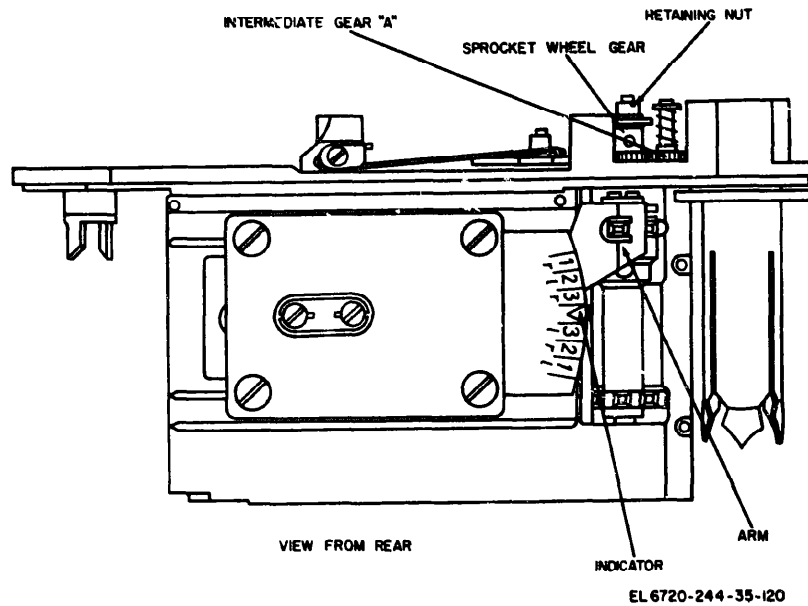

Figure 4-15. Sprocket wheel gauge in test position
b. Wind the shutter and position gauge No. 39 in the camera film aperture (fig. 4-15). A tooth of the sprocket wheel must appear through the opening in the gauge arm.